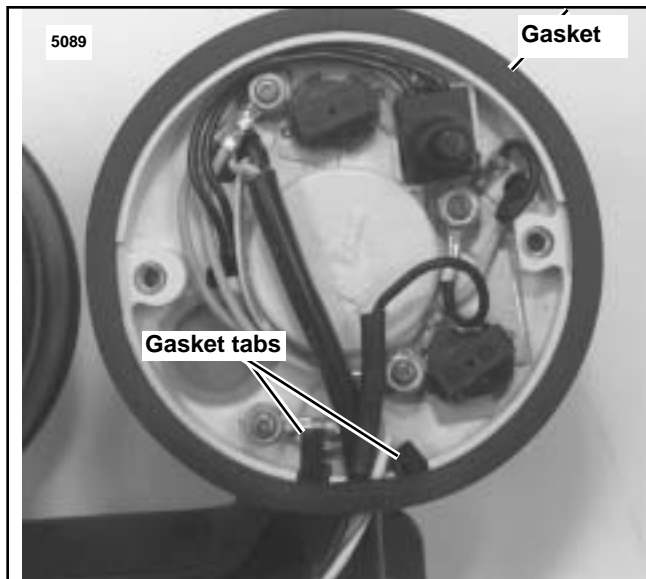

Figure 5. Back of Speedometer
- 6a. See Figure 5. Place wires from speedometer through front of left opening in double bracket. Lubricate the front and rear gaskets with isopropyl alcohol or glass cleaner to ease installation.
6a. See Figure 5. Place wires from speedometer through front of left opening in double bracket. Lubricate the front and
6a. See Figure 5. Lubricate the front and rear gaskets with isopropyl alcohol or glass cleaner to ease installation. Insert speedometer into the front of left opening in double bracket.